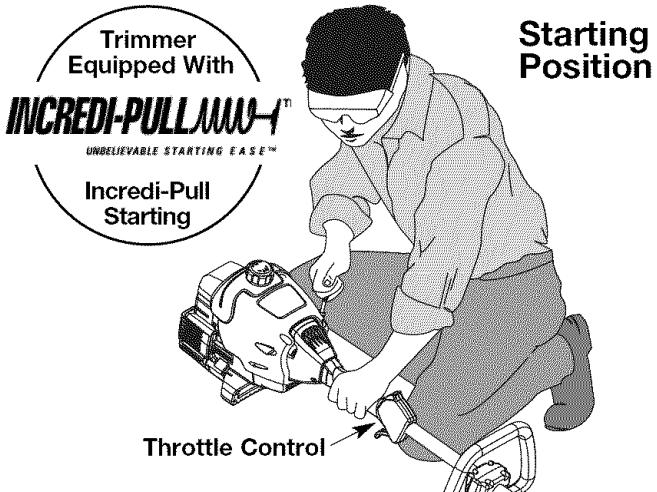

Fig. 5
WARNING: Avoid accidental starting. Make sure you are in the starting position when pulling the starter rope (Fig. 5). To avoid serious injury, the operator and unit must be in a stable position while starting.
4. Crouch in the starting position (Fig. 5). **Do not squeeze the throttle**, and pull the starter rope with a controlled and steady motion until the unit starts. Wait 10 to 15 seconds, then squeeze the throttle to control the cutting speed.